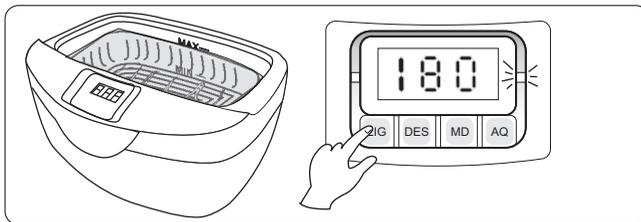
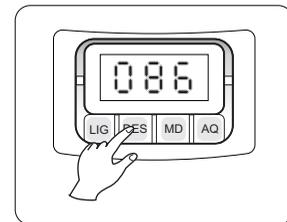

Fig. 14
Fig. 15
- 7► Press the **LIG** key to start cleaning (Fig. 14), at this moment the operator will hear the typical sound of the cavitation process. To pause the cycle press the **DES** key (Fig. 15) to resume cleaning, press **LIG** again.